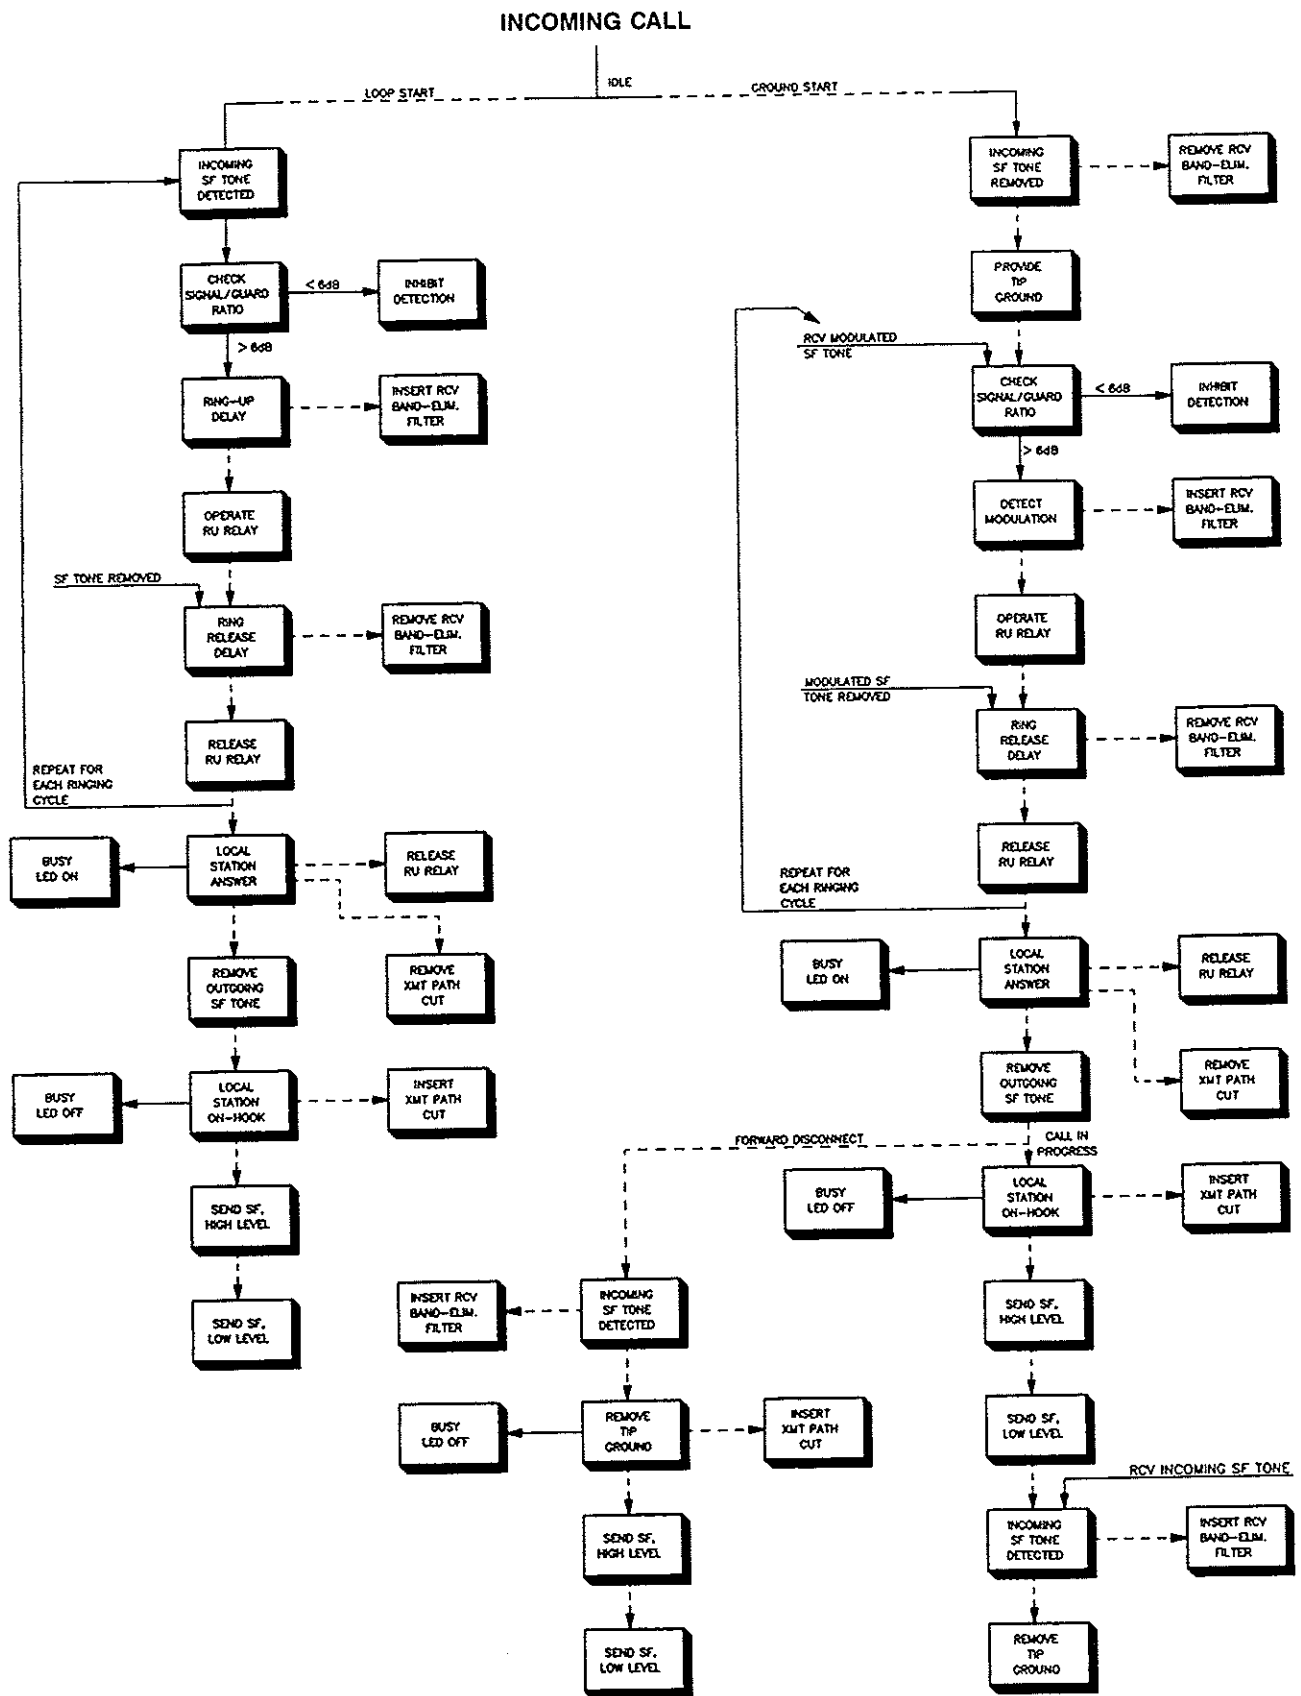

figure 10. Function sequence flowchart, incoming call
4.01 To provide the clearest possible understanding of the operation of the 6123/A 4Wire-to-2Wire SF-to-FXS Terminal Repeater module, function sequence flowcharts (figures 10 and 11) that illustrate operation of the module on incoming and outgoing calls are presented in lieu of a more conventional circuit description. Horizontal paths identify events occurring simultaneously, and vertical paths denote sequential events. Dotted lines indicate elapsed time. These flowcharts can be used to determine normal module operation by observing
7.01 The **troubleshooting guide** in this section may be used in conjunction with the function sequence flowcharts (figures 10 and 11) in section 4 of this practice to assist in the installation, testing, or troubleshooting of the 6123/A 4Wire-to-2Wire SF-to-FXS Terminal Repeater module. The guide is intended as an aid in the localization of trouble to this specific equipment. If the equipment is suspected of being defective, substitute new equipment (if possible) and conduct the test again. If the substitute operates correctly, the original should be considered defective and returned to Tellabs for repair or replacement as directed below. We strongly recommend that no internal (component-level) testing or repairs be attempted on the equipment. Unauthorized testing or repairs may void its warranty. Also, if the equipment is part of a registered system, unauthorized repairs will result in